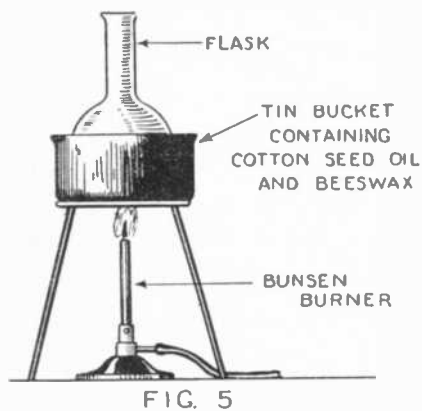
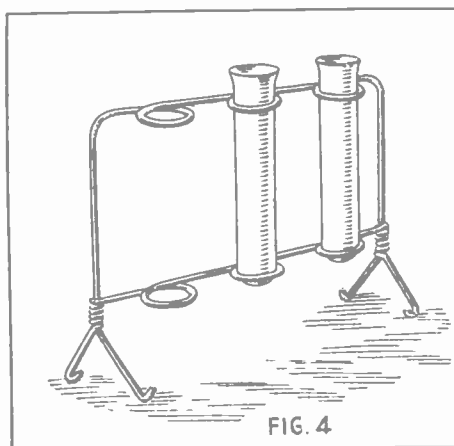

Fig. 5. A mixture of cotton seed and oil and beeswax is used for heating chemical vessels. The mixture is solid when cold so there is no danger of spilling.
FIG. 4
Fig. 1. A simple extemporized pressure gauge using a graduated thistle tube to give the scale. Fig. 2. Effectual drying apparatus using the simplest material for its construction. Fig. 3. Valve for a wash-bottle so that the outflow will last for some time without mouth blowing. Fig. 4. Apparatus for rapid filtration with a suction pump.
In Fig. 2 is shown a convenient tongs, made of wire, whose pivoted joint may be constructed as shown at (B). By introducing corks into the rings at the end of the jaws, (C) a test tube holder is produced. Fig. 3 is a spring pinch-cock. For its construction care must be taken to have spring tempered wire. Brass wire is excellent. Fig. 4 shows a very nice construction of a test tube rack made of wire. In Fig. 5 is shown another construction of pinch-cock and below are two stands, one a regular retort stand and the other a stand for holding the beak of the retort. It will be observed that both are adjustable for height.
Fig. 4 represents an easily constructed stand for test tubes. It may be used to accommodate any number of tubes and the legs may be screwed to a wooden base to make the stand more stable.
Fig. 5 is an excellent form of pinchcock opened by pressing the two thumb pieces.
Figs. 5 and 7 show stands of adjustable height for supporting the beak of the retort or to hold conducting tubes and a very simple retort stand with several sizes of rings.